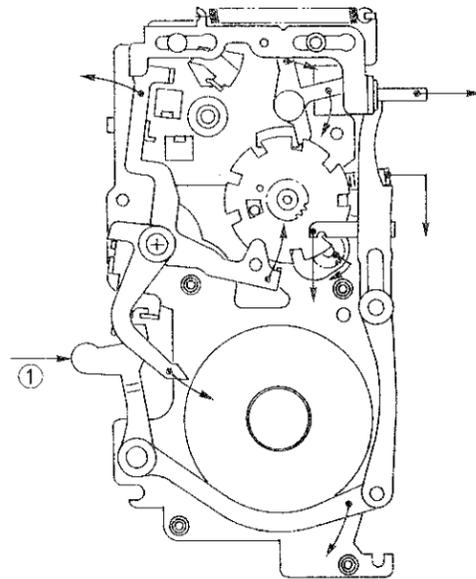

Fig. 79
1. When the film is loaded and the back cover is closed, ① is pushed (Fig. 79) and each lever is actuated in the arrow direction for setting.